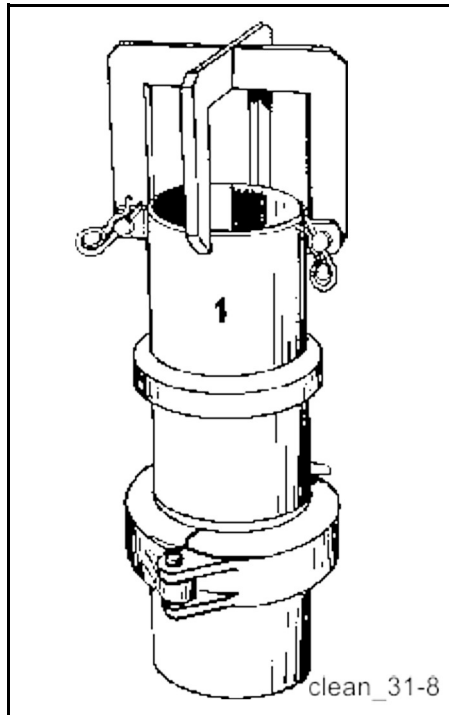

Fig. 124 Trap basket
5. A trap basket must be connected to the concrete outlet (**Fig. 124**).